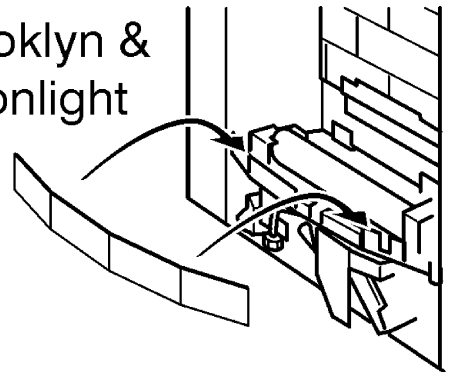

Figure 21. Fitting burner tray trim to 'Chic' model.
1. Fit the burner tray trim over the front rim of the burner tray. There are two tags which locate over the edge of the burner tray. Push the trim fully down (See figure 21).